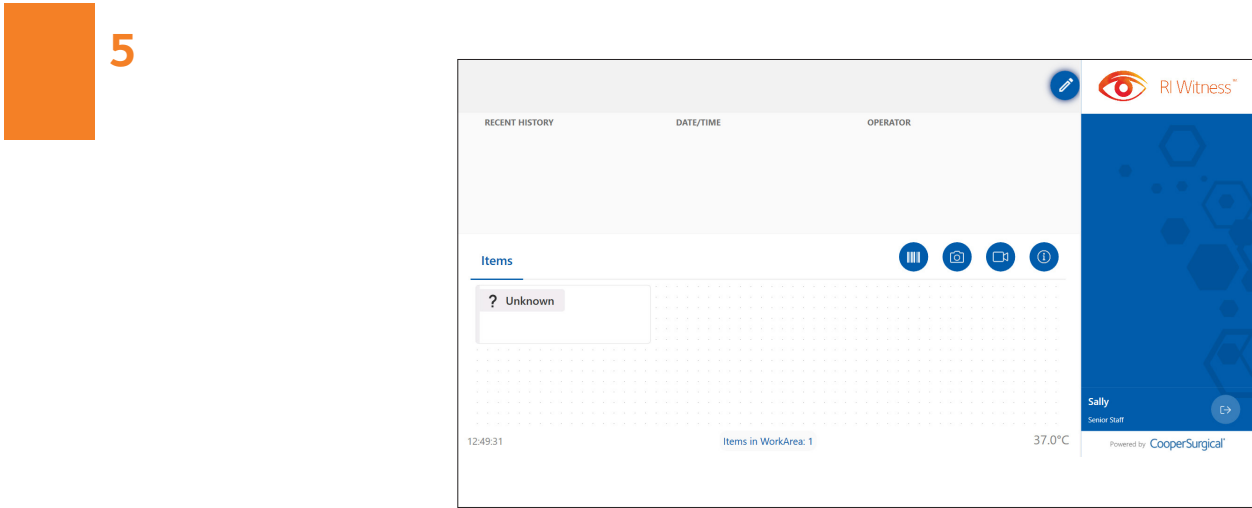

Figure 5-3 Unassigned Tag Has Been Detected
1. To start a new procedure, log in then place one or more unassigned, tagged items into the work area (usually a patient ID card, egg collection dish or sperm pot). A question mark will show that the tag has been detected and is unassigned. See Figure 5-3. Press the pencil icon to open the Choose Patient window